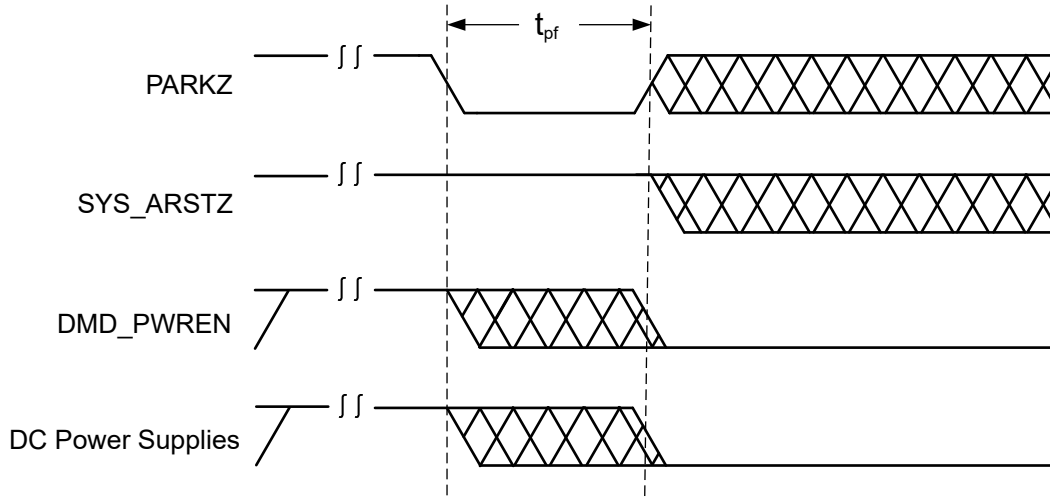

図 7-12. Removing Power After Asserting PARKZ
3. Following the deassertion of DMD_PWREN, power can be safely removed from the DLP chipset as shown in Figure 7-12.